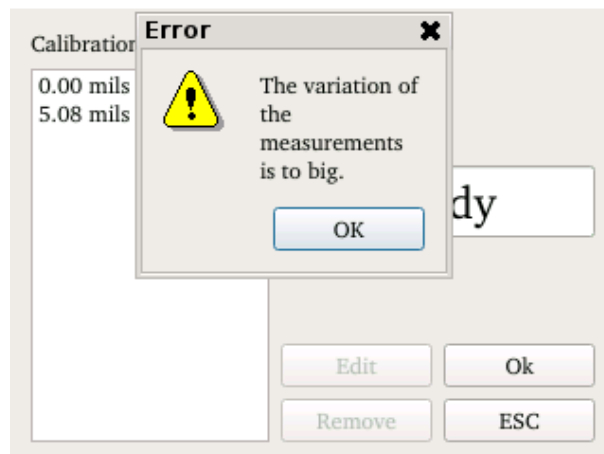

Figure 17: Measurement Variation to big
- If the lift-off prevention is enabled, it is also used in the calibration mode. If the measurement was not successful, the system gives a message as shown in Figure 17.